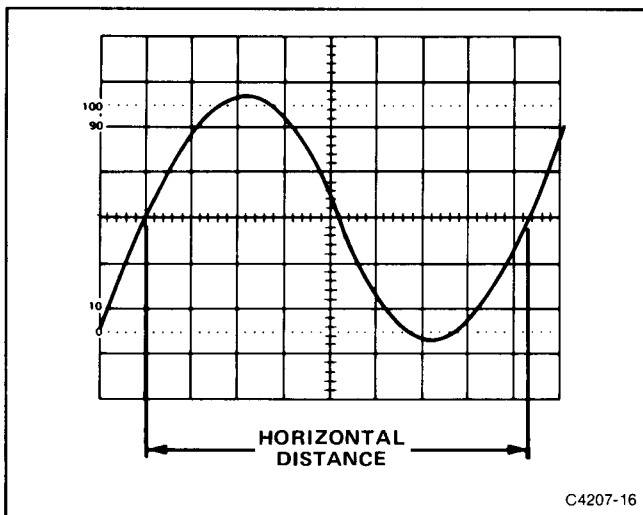

Figure 4-6. Time duration.
5. Position the display to place the time-measurement points on the center horizontal graticule line (see Figure 4-6).
EXAMPLE: The distance between the time measurement points is 8.3 divisions (see Figure 4-6), and the A SEC/DIV switch is set to 2 ms per division. The X10 Magnifier is off (knob in).
EXAMPLE: The signal in Figure 4-6 has a time duration of 16.6 ms.